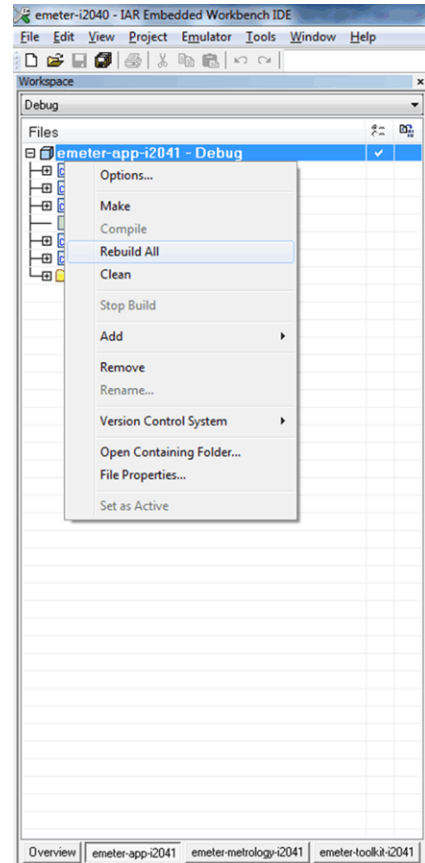

Figure 25. Application Project Compilation
7. Within the workspace window, select "emeter-app-i2041", click Rebuild All as shown in Figure 25, and then download this project onto the i2041.